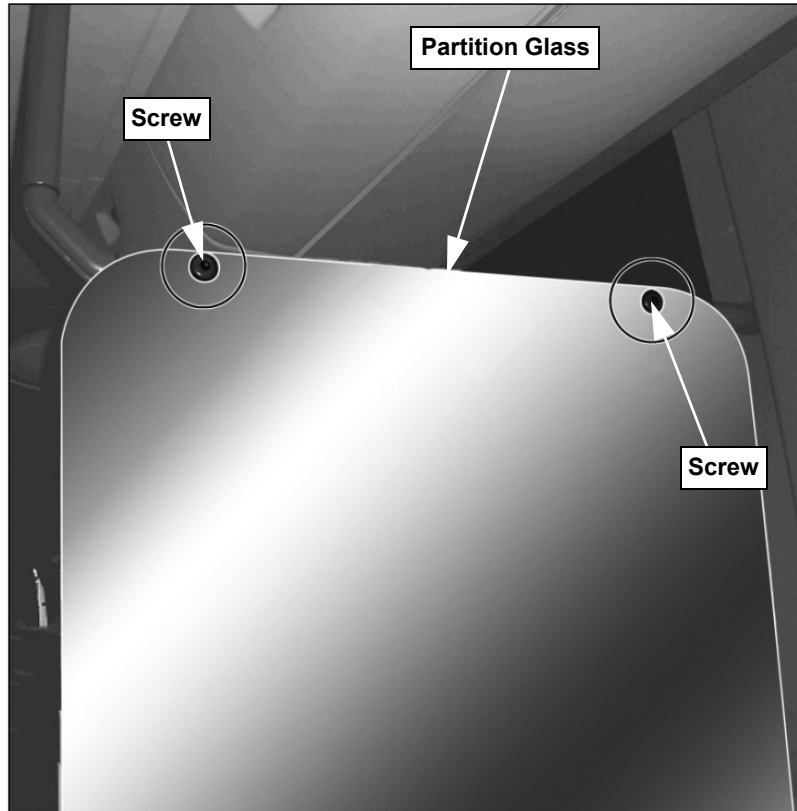

Figure 1-2 Upper Mounting Screws
2. Remove the upper screws and rubber washers from the lower upper point and remove the partition glass. See Figure 1-2.
1. Place replacement partition glass into position and install upper mounting screws with rubber washers. Reference Figure 1-2.